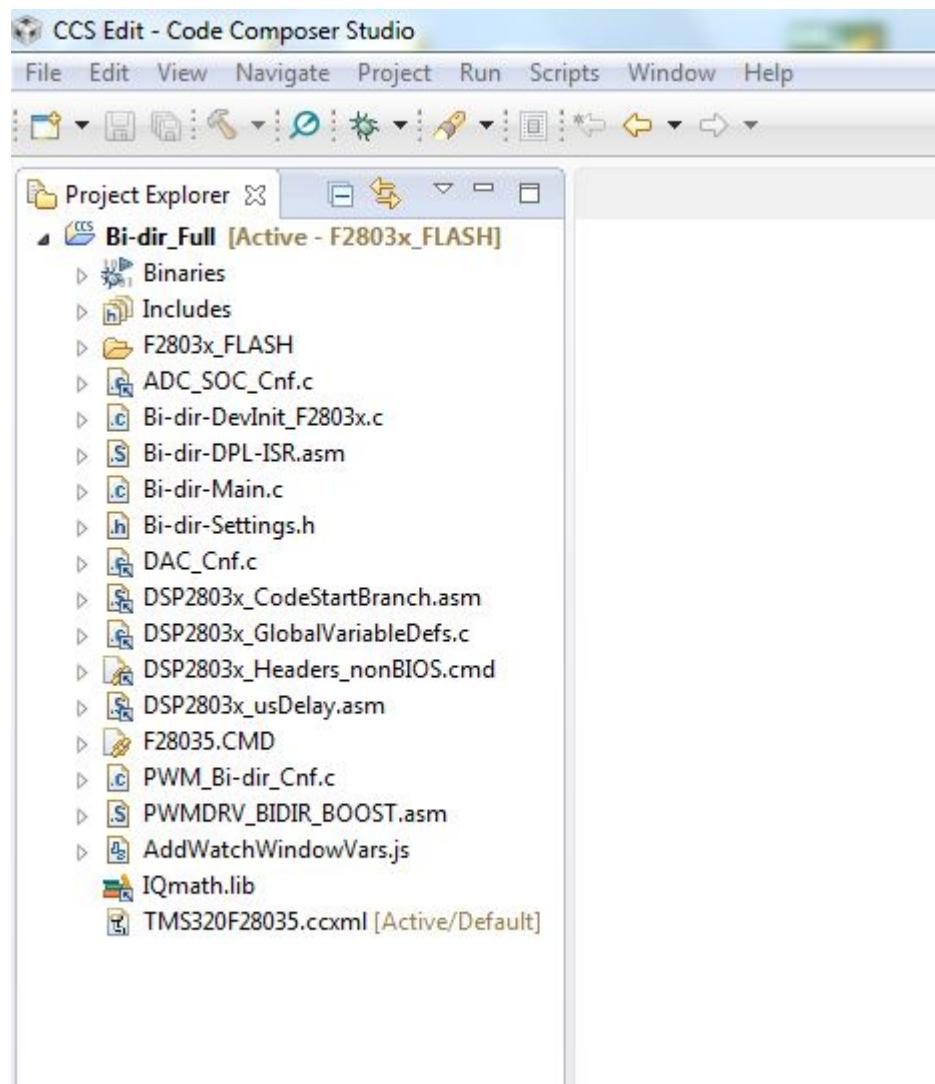

Figure 67. Full Bidirectional Project CCS Project Window
14. In the Project window on the left, click + to the left of Project. See Figure 67.